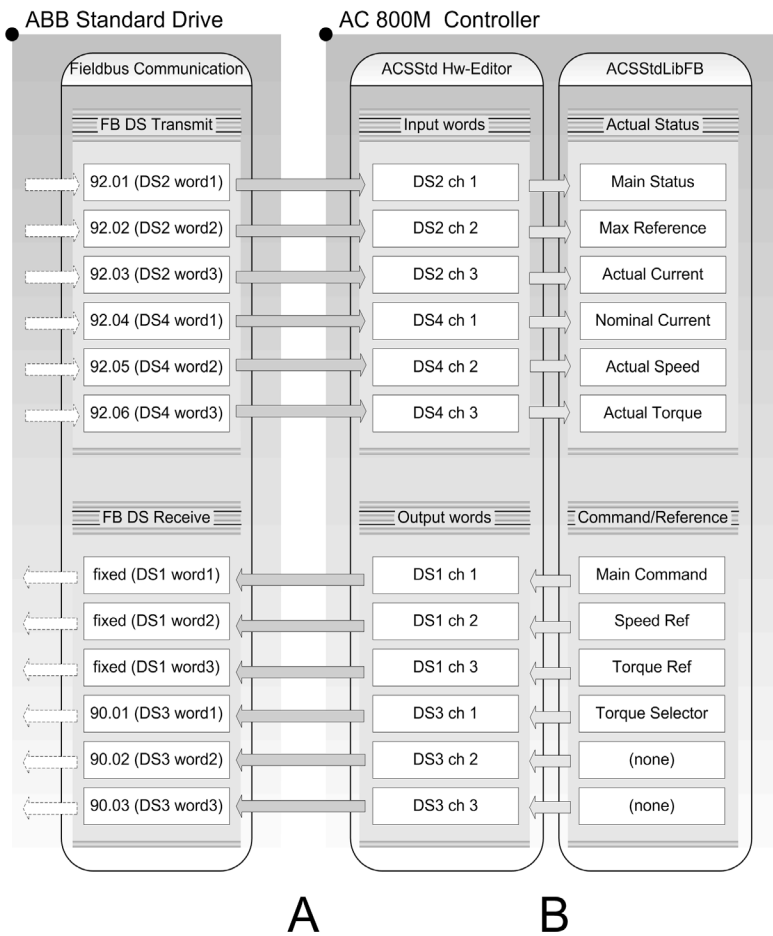
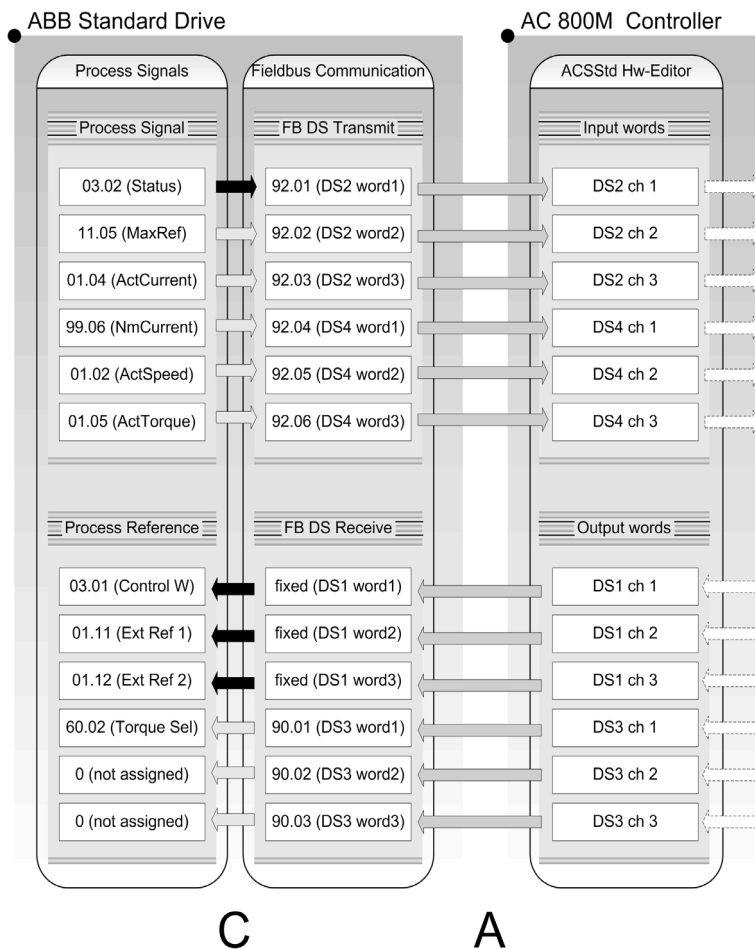

Figure 142. Overview of the connections between an ABB Standard Drive and an AC 800M Controller, part A-B
Figure 143. Overview of the connections between ABB Drive and AC 800M Controller, part C-A (black arrow = fixed connection)
Figure 142 and Figure 143 shows communication between an AC 800M Controller and an ABB Standard Drive.
- a. Establish the communication channels (part A in Figure 142 and Figure 143).
- b. Define the data to be sent and received in AC 800M Controller (part B in Figure 142).
In AC 800M, this is done by making variable connections between the ACStdDrive function block and the Hardware Editor of the applied communication interface, using variable connections. The most important thing is that the required process data on the Drive side must be connected on the same communication channel used by the corresponding data in ACStdDrive function block. For example, in Figure 142, Actual Speed in ACStdDrive function block must be connected to DS4 ch 2, so that the parameter can get the correct information.
- c. Define the data to be sent and received in the ABB Standard Drive (part C in Figure 143).
For example, define the connection between parameter index 01.02 (ActSpeed) with parameter index 92.05 (DS4 word 2) in ABB Standard Drive. How to connect those parameter indexes in the Drive is described in ABB Drives documentation. A black arrow in Figure 143 indicates a fixed connection that is not configurable.